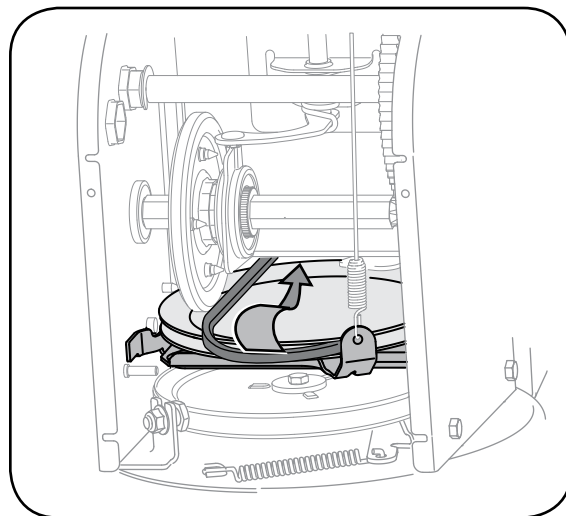

Figure 6-12
4. Slip the drive belt off the pulley and between friction wheel and friction wheel disc, Figure 6-12.